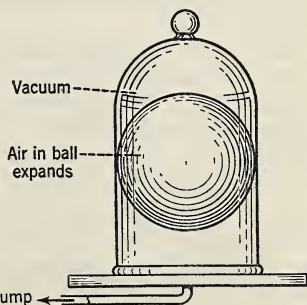

FIG. 81. Gases expand when the pressure upon them is decreased.
69. Gases expand. If we put a pint of milk in a quart bottle, the milk does not expand and fill the entire bottle. If we puncture an inflated tire, the air that was inside the tire expands as it escapes and occupies much more space than it did formerly. We can easily measure the volume of a liquid, such as milk or water, but the volume or space that a gas occupies depends upon the pressure to which it is subjected. Suppose we blow up a rubber balloon until it is about half inflated. Next let us put it under a bell jar and exhaust the air that surrounds the balloon. As we remove the air from the bell jar, we are reducing the pressure on the outside of the balloon. The gas inside expands and increases the volume of the balloon decidedly. If we let the air back into the bell jar, the balloon will shrink to its former size. This experiment shows that gases are perfectly elastic. (See Fig. 81.)